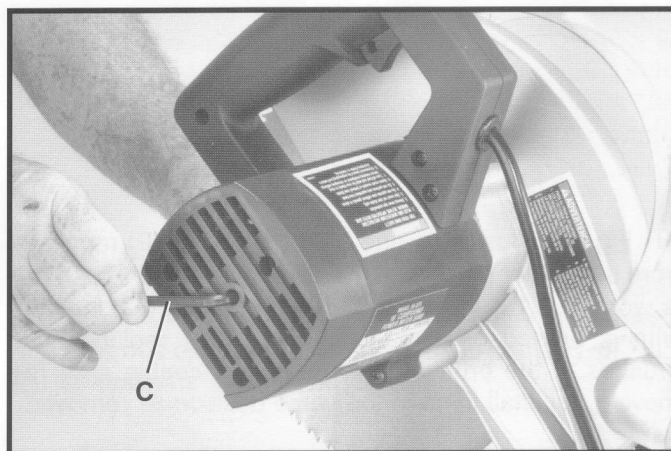
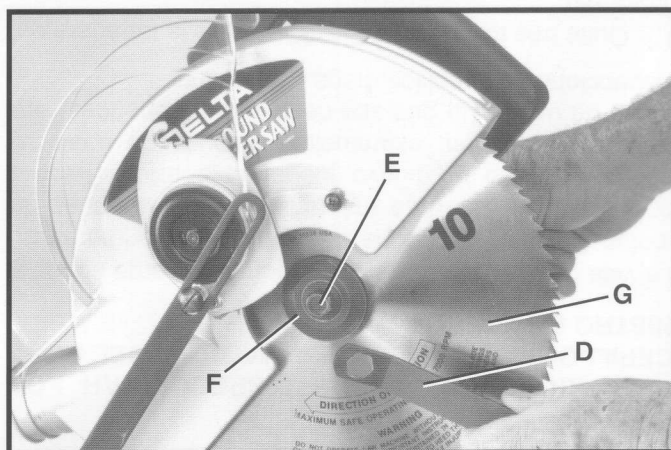

Fig. 45
Fig. 46
3. To remove the saw blade, insert hex wrench (C) Fig. 45, into the hex hole located on the rear end of the arbor shaft, to keep the shaft from turning.
4. Using wrench (D) Fig. 46, loosen arbor screw (E) by turning it clockwise.
5. Remove arbor screw (E) Fig. 46, outside blade flange (F) and saw blade (G) from saw arbor.
6. Assemble new saw blade **MAKING CERTAIN TEETH OF SAW BLADE ARE POINTING DOWN AT THE FRONT** and reassemble outside blade flange (F) Fig. 46, and arbor screw (E) by turning it counterclockwise using wrench (D) Fig. 46. At the same time use hex wrench (C) Fig. 45, to keep the arbor from turning.
8. **WARNING: REMOVE WRENCHES (C) FIG. 45, AND (D) FIG. 46, BEFORE TURNING ON THE POWER.**